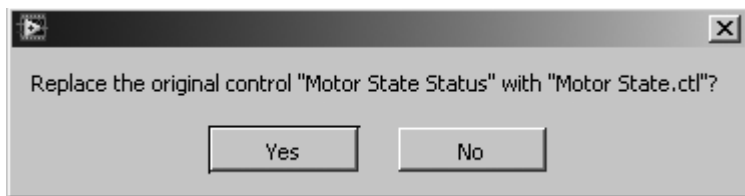

Figure 13.67
7. You've just created a typedef. Now close this window. When you do so, you will get a dialog like the one in Figure 13.67, asking you if you want to replace your original control with Motor State.ctl. Say yes.